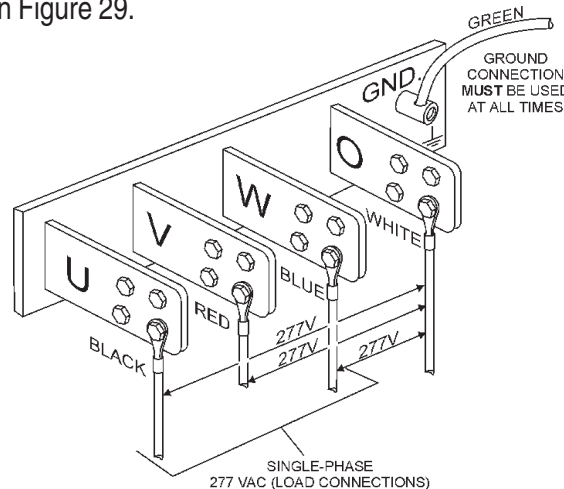

Figure 29. UVW Terminal Lugs 10-277V Connections
2. Connect the load wires to the UVW terminals as shown in Figure 29.